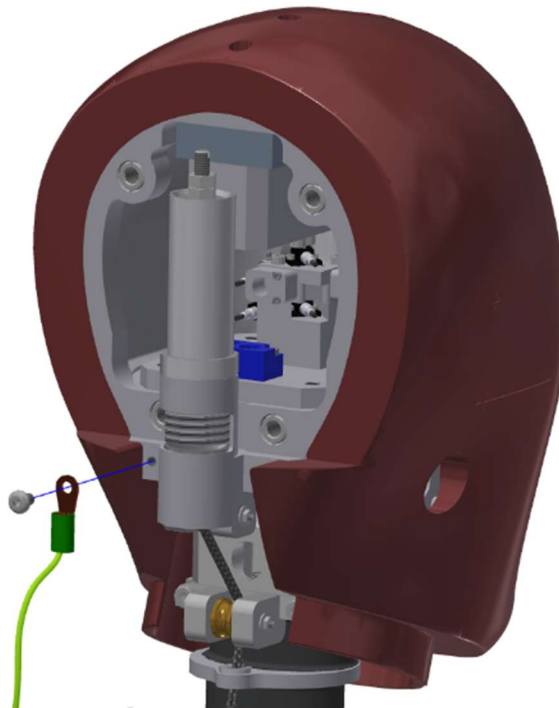

Figure 3-38. Head ground strap location
- 3.3.19 Attach the ground strap to the back of the head using one M4 X 0.7 X 6 BHCS (Figure 3-38).